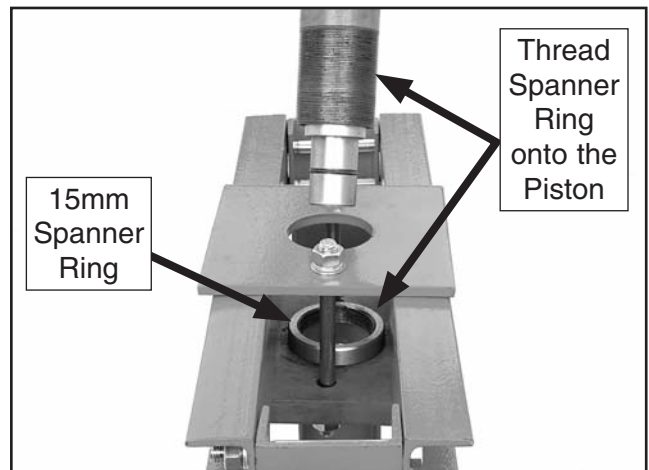

Figure 13. Piston installation.
- Position the 15mm spanner ring on top of the lower support plate, and install the piston assembly through the top of the support plate holes, as shown in **Figure 13**.
- Make sure that the thin 15mm spanner nut shown in **Figure 13** is threaded onto the piston housing completely. Otherwise, there will not be enough thread exposed for the thicker load-carrying spanner ring below. The 25mm spanner ring must have full thread engagement as this ring is the only support for the piston during all press operations.